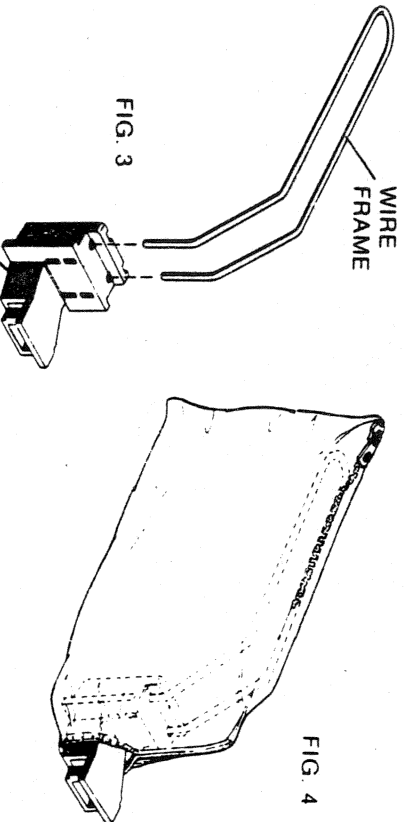

FIG. 3
1. Insert the wire frame into the two holes in the plastic adapter. (Fig. 3)